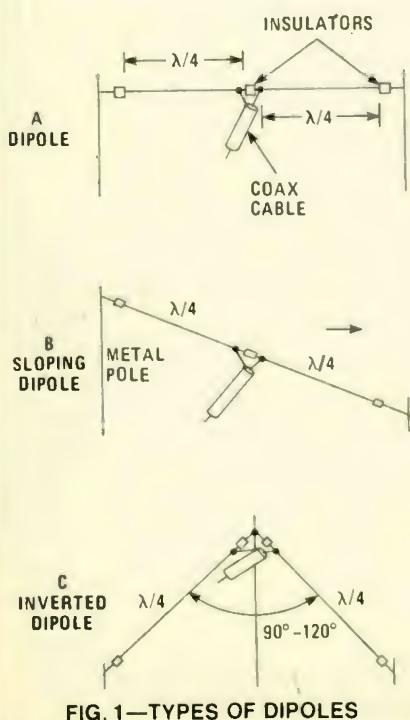

FIG. 1—TYPES OF DIPOLES
A breakout box that will open all 25 RS-232 connections doesn't come cheap. In actual fact, more often than not only 10 or fewer connections are used, and two of them are ground while another is not generally used. So tops, all we need worry about are seven active circuits, which can be easily handled by an RS-232 Breakout Box built mostly from junk-box parts, such as shown in the photographs and Fig. 1.
In the RS-232 Breakout Box shown in Fig. 1, switch S1 reverses the connection of the RS-232 signal lines, which are 2 and 3. That is needed because RS-232-2 is used when providing a signal to a printer, while RS-232-3 is the signal feed to a modem. If your computer's RS-232 output doesn't
FIG. 1—COMPLETE schematic diagram of the Breakout Box makes its principle of operation easy to understand. You'll need a little RS-232 background provided by the text. The light emitting diodes are numbered to correspond to the signal lines in the cable. Whether they are on, or off, or flickering, will indicate to you the status of the RS-232 signals in the cable.
Each of the commonly used RS-232 connections has a light-emitting diode (LED) status indicator. LED1 through LED7 are red. LED8 is yellow or green, or anything else easily distinguished from red. Any light-emitting diode that is *on* indicates a normal *high* on the circuit. If the LED is not *on*, the circuit is *low*. If the LED flickers, it's an indication that there is data being transmitted on the circuit. For example, when feeding a modem, the status 3 light-emitting diode (LED3) will flicker when keys are pressed. (Note: in Fig. 1 the practice of numbering LED's consecutively has been discontinued in favor of having the LED's symbol designation coincide with the RS-232 signal line. Thus, line 20 is common to LED20 with a LED panel marking of "20" on the box.) Similarly, LED2 will flicker when the modem passes data to the computer. Actually, when using a full-duplex modem, LED3 will flicker followed almost immediately by a flicker from the LED2 as the modem receives the echo of the keyboard entry from the host computer.
As shown in Fig. 1, three connections pass through the
The schematic diagram (Fig. 1) for the RS-232 Breakout Box doesn't show the DB-25 connectors used for input and output connection, because you must select the type that fits your needs. In actual fact, either the A or B connections can be the input or output. The most common arrangement, however, would be a female connector for the A terminals and male connector for the B terminals.
Dipoles are found in three common forms, as in Fig. 1. The classic dipole (A) is a straight horizontal half-wave length antenna separated into two quarter-wave segments and fed at the center. Another version (B) is called a *sloper*, because of its slant from a high mounting position toward the ground. If a metal mast is used, that style has some directivity in the direction of the slope as shown. The third form (C) is the popular inverted dipole (often called an inverted-V).
The transformer consists of two or more coils of wire wound over a common core of (usually) an iron alloy. Figure 1-A shows the basic transformer configuration. There are two windings shown in Fig. 1A—the primary and secondary
Transformers come in configurations other than the basic type shown in Fig 1-A. Other transformer variations are shown in Figs. 1-B through 1-F.